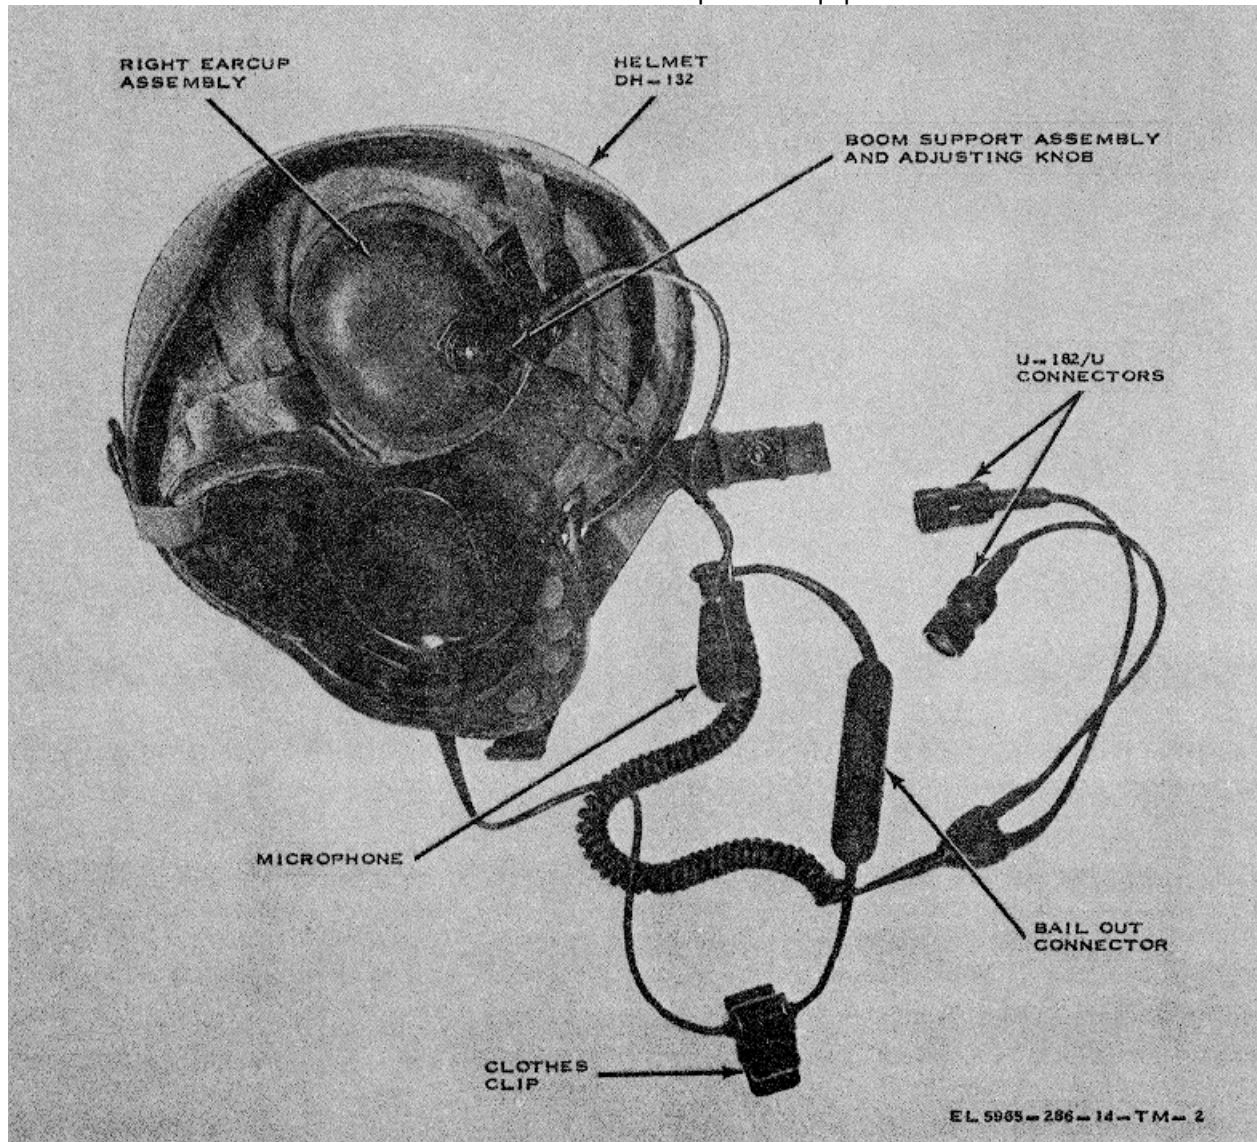

Figure 1-2. Headset-Microphone Kit MK-1697/G installed in combat vehicle crewman's helmet DH-132, showing switch handle assembly mounted on left earcup.
(fig. 1-2 and 1-3)
c. *Switch Assembly.* (fig. 1-2). The switch assembly consists of a radio-interphone switch assembly and a switch handle, both mounted in the left ear cup.